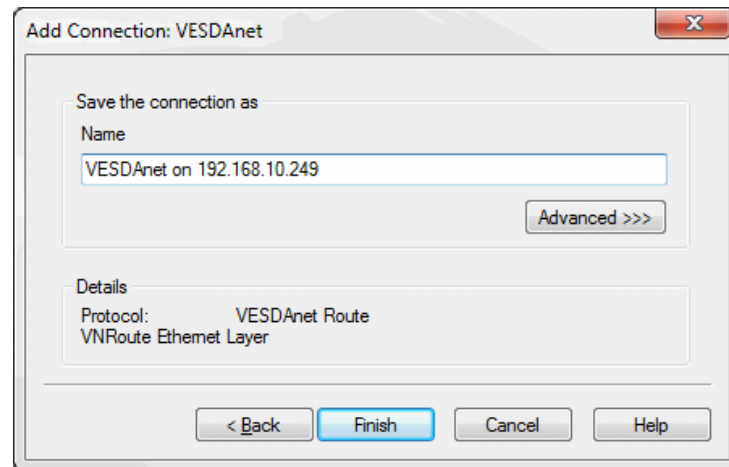

Figure 5-7: Enter a Connection Name
3. Enter a unique name for the Connection or accept the pre-generated name, then select **Finish** (Figure 5-7).